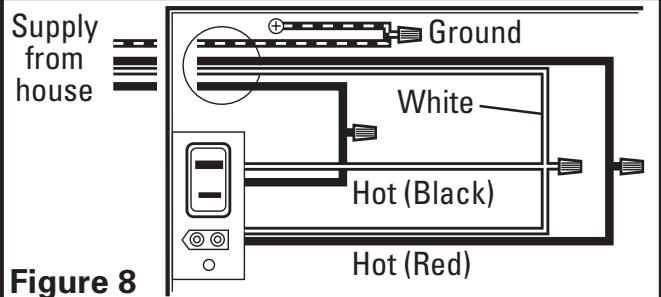

Figure 8
- 1a. From where you have access to inside the fan's junction box, connect the one white wire from the house to both the white wire from the fan's light receptacle and the white wire from the fan's exhaust receptacle. Connect the first black wire from the wall switch to the black wire from the fan's light receptacle. Connect the second black wire from the house to the fan's exhaust receptacle. Connect the ground wire from the house to the green wire from the fan's grounding screw (**Figure 8**). Use approved methods for all connections.